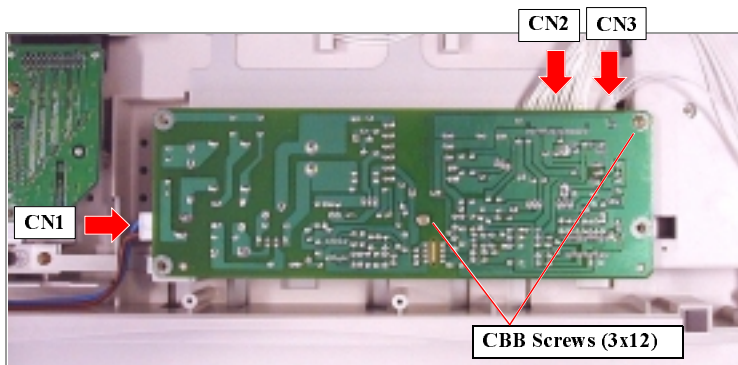

Figure 4-8. B109 PSH Board Removal
2. Remove the two screws (CBB, 3x12) and disconnect the harnesses from CN1, CN2, and CN3. Then remove the B109 PSH Board from “HOUSING, LOWER”. (See Figure 4-8.)